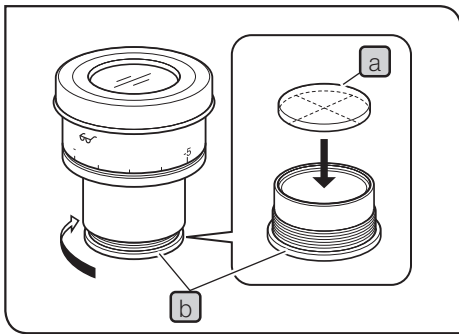

Fig.33
**3 Mounting the eyepiece micrometer disk (Fig.33)**
Following Fig.33, turn the built-in micrometer-mounting frame **b** to the arrow direction to remove it from the eyepiece and place a micrometer disk **a** into the mounting frame so that the surface with the model indication faces downward.